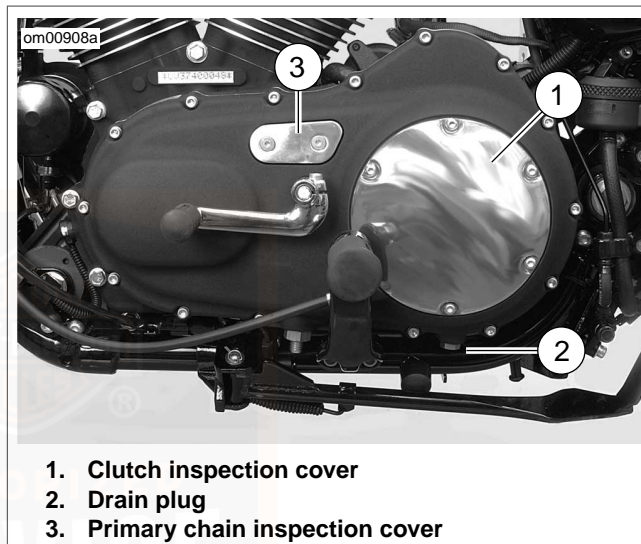

Figure 36. Primary Cover: Sportster Models (XL Model Shown)
6. See Figure 36. Remove screws with washers from clutch inspection cover. Remove clutch inspection cover from primary cover.
4. See Figure 36. Position a suitable container under transmission drain plug (2).
10. See Figure 36. Remove screws with washers from clutch inspection cover. Remove clutch inspection cover from primary cover.
2. See Figure 36. Remove the two hex socket screws which secure primary chain inspection cover (3).